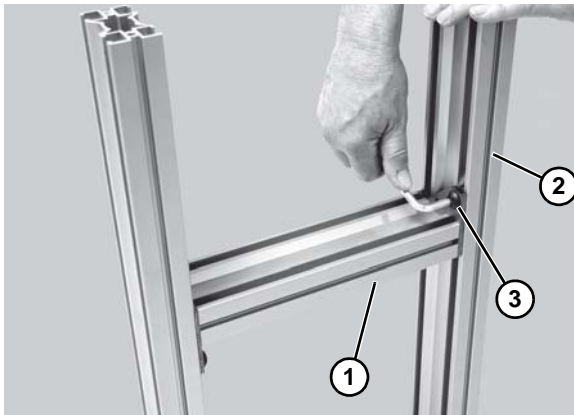

Figure 6
<p>Failure to secure screws (Figure 6, item 3) may cause conveyor sections to drop down causing severe injury.</p> <p>TIGHTEN SCREWS (Figure 6, item 3) AFTER ADJUSTMENT.</p>
5. Upright stand and locate and space crossmember(s) (**Figure 6, item 1**) evenly along stand leg (**Figure 6, item 2**). Tighten crossmember button screws (**Figure 6, item 3**) to 150 in-lb (17 N-m).